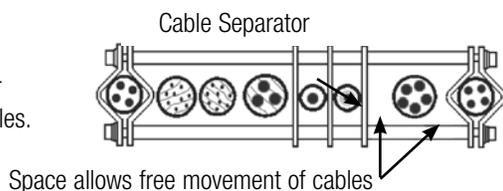

Figure 1
2.4.1.2 For loop depths up to seven feet, use one organizer per loop. Position the organizer in the lower apex of the loop (see Figure 1).
2.4.3.1 Install organizer with the top layer of cables securely clamped between the plate and clamping bar (see Sec. 2.3.2.2, page 5; also Figures 1 and 2, page 6). Position the remaining cables between the plate and floating bar, thereby permitting free movement of the cables.